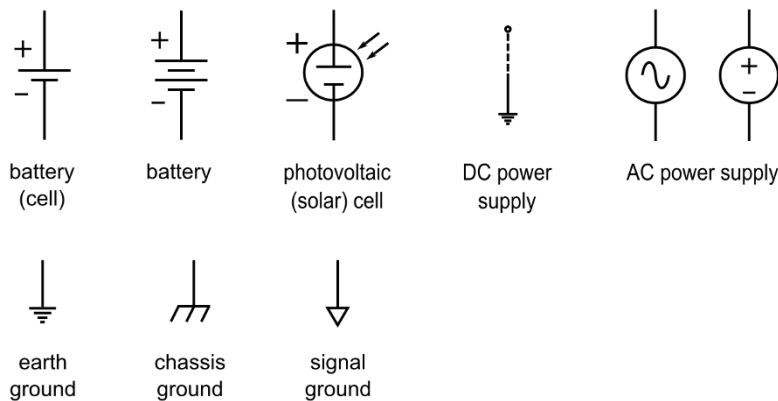

Figure 14-4: Symbols for power and ground.
Power for a circuit can come from an alternating current (AC) source, such as the 120 VAC (volts AC) outlet in your house or office (line power), or a direct current (DC) source, such as a battery or the low-voltage output from a wall transformer. DC supplies can be positive or negative with respect to the zero-volt reference (known as *common ground*, or simply *common*) in a circuit. Figure 14-4 shows various symbols used to represent power and ground connections. These symbols are discussed more fully in the next two subsections.
Figuring out the various power connections in a complex schematic is sometimes a task unto itself. This section aims to clear things up a bit. As you read through this section, refer to Figure 14-4 to see the symbols as they're discussed.
- ✓ **Battery or solar-cell symbol:** Each of the battery symbols in Figure 14-4 represents a DC source with two leads. Technically, the battery symbol that includes two parallel lines (the first symbol for battery) represents a single electrochemical *cell*; the symbol with multiple pairs of lines (the second symbol) represents a *battery* (which consists of multiple cells).